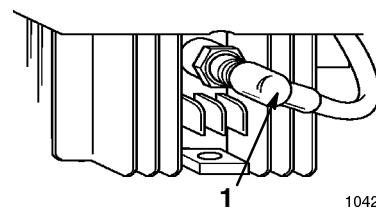

Figure 4
2. Disconnect the spark plug wire (Fig. 4)